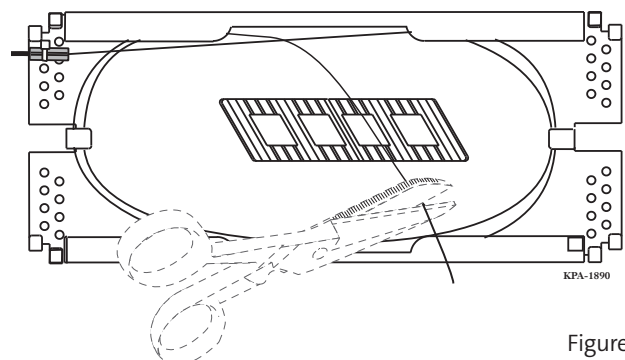

Figure 6
- Step 2:** Cut excess fiber (approximately 1 1/2 inch from the splice point) as shown in Figure 6.